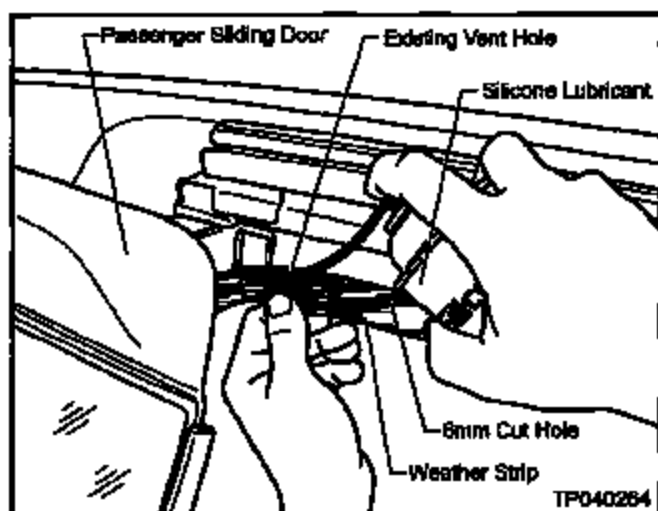

Figure J7
10. Squirt some Silicone Lubricant through the other Weather-strip Vent Hole (rearward of the hole you just cut) so the Rubber Tube can be easily inserted (see Figure J7).